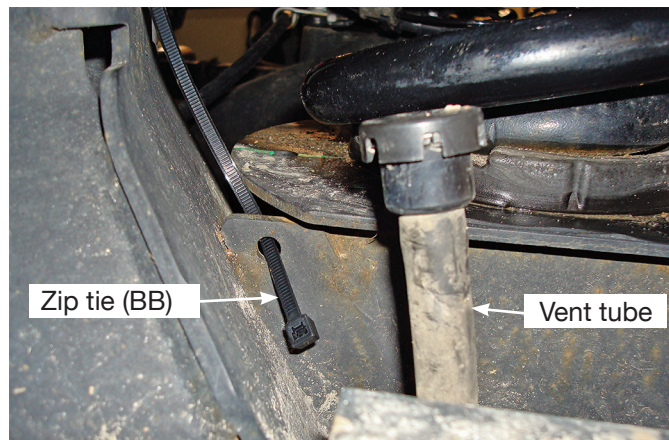

fig. 4
2. On the driver's (left) side by the axle on some models, there is a small vent tube (Fig. 4) that needs to be tied on an angle with a zip tie (BB).